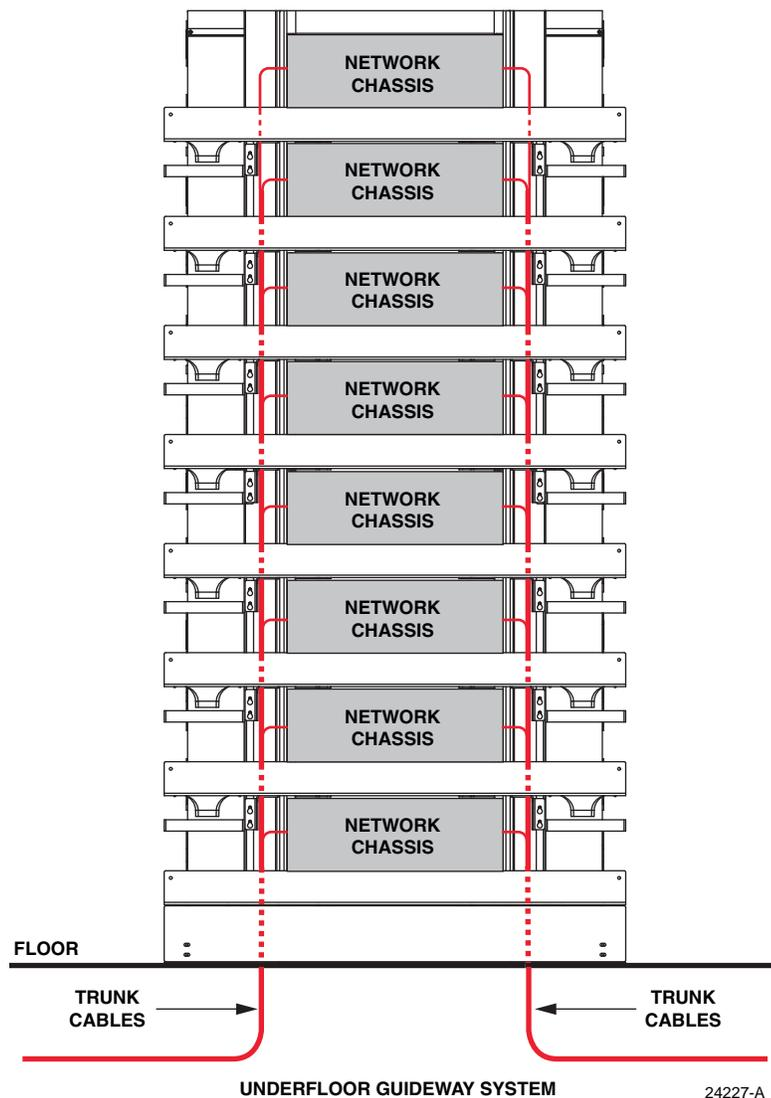

Figure 24. Underfloor Trunk Cable Routing Procedure
2. Route cable into the rear vertical cable guide on the left or right side of the rack, when viewed from the rear (see Figure 24).